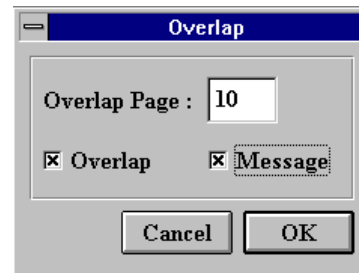

Fig.5-3 Overlap Dialog
- 3) Click on the **Setting** button. An **Overlap** dialog for the page is popped up as shown in Fig. 5-3.